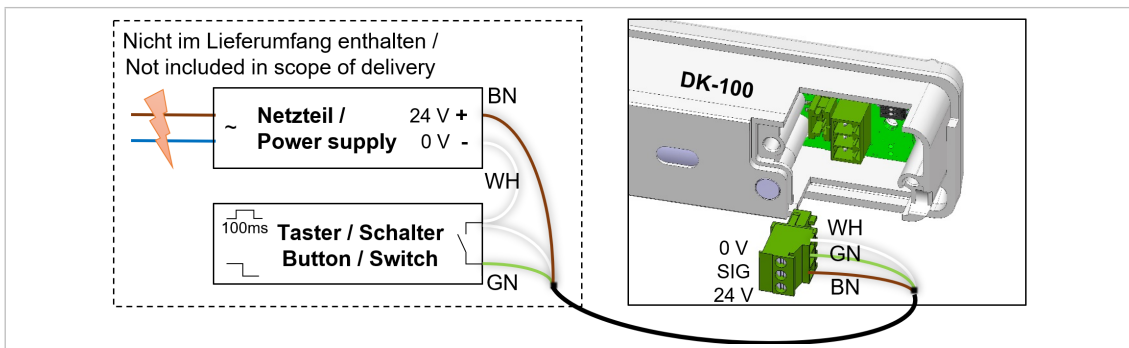

Fig. 4: Connection diagram DK 100: Manual operation
- a) Route the connection line (6) of the **DK-100** in the frame profile according to chapter „7.4.5 Installation DK-100“ and guide it out of the frame profile at a suitable location.
- b) Connect the individual wires of the connection line (6) with the connector (5) on the connection side of the **DK-100** according to the configuration shown here (fig. 4).
- c) Shorten the individual wires to a suitable connection length and connect them with the power pack and a switch or button as shown in figure 4.
- For the configuration of the individual wires of the connection line (6), refer to table 4 (see page 13).